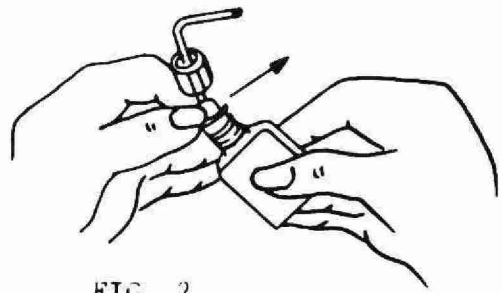

FIG. 2
1. Pull out the spout and remove the screw cap as shown in Fig. 2.